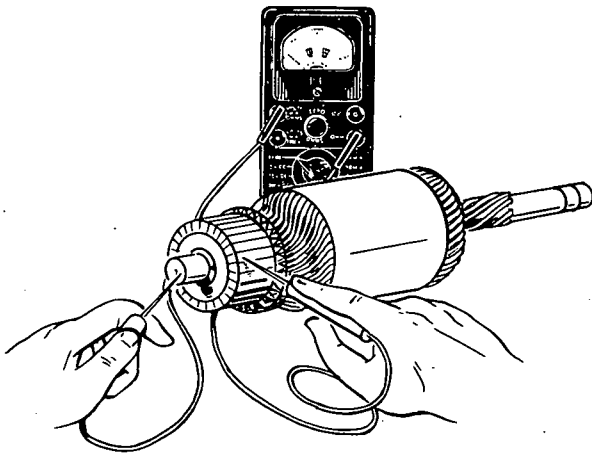

FIGURE 41. ARMATURE GROUND TEST
2. **Testing Armature for Grounds.** Touch armature shaft or core and the end of each commutator bar with a pair of ohmmeter leads. If the ohmmeter reading is low, it indicates a grounded armature. Replace grounded armature. See Figure 41.